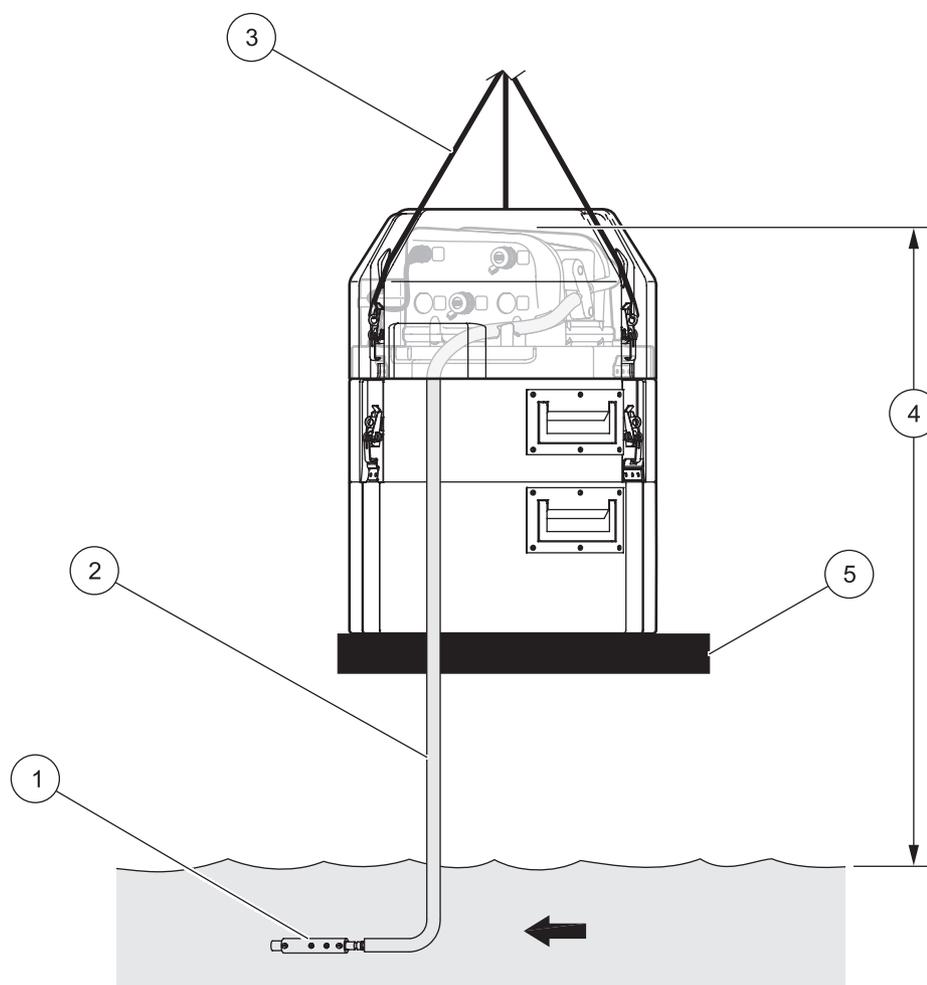

Figure 6 Mounting configuration
Refer to the following guidelines and Figure 6 when evaluating site location.
- Make sure that the site has a level surface or a place to hang the suspension harness, support bracket or spanner bar (Figure 6).